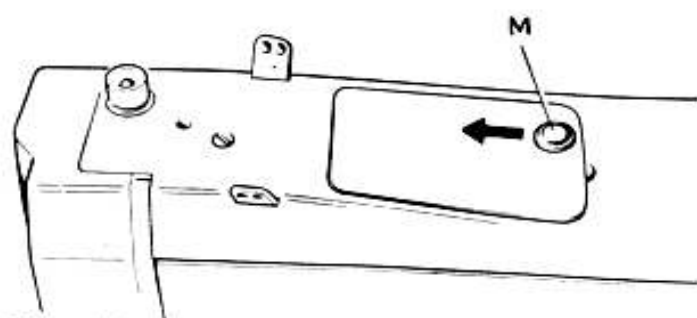

Fig. 49
- Move button « M » (Fig. 49) toward the left, that is in the direction of the arrow.
Move button « M » (Fig. 49) toward the left.